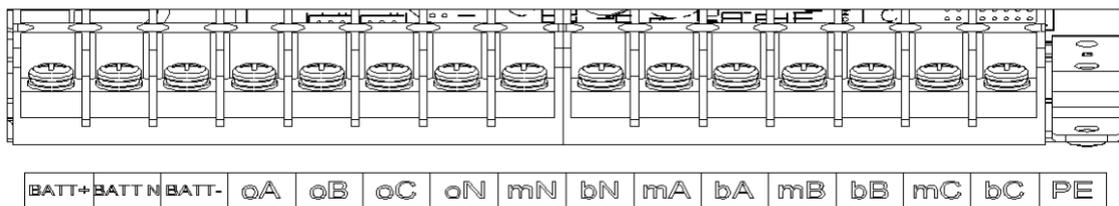

Fig.2-5 Connection terminals
- (1) Verify that all the switches of the UPS are completely open and the UPS internal maintenance bypass switch is open. Attach necessary warning signs to these switches to prevent unauthorized operation.
- (2) Open the back door of the cabinet, remove the plastic cover. The input and output terminal, battery terminal and protective earth terminal are shown in Fig.2-5